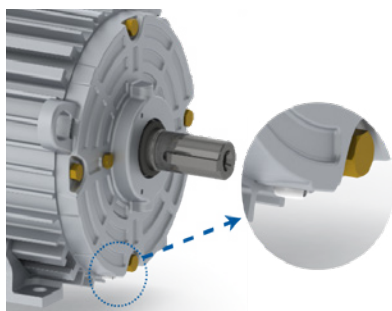
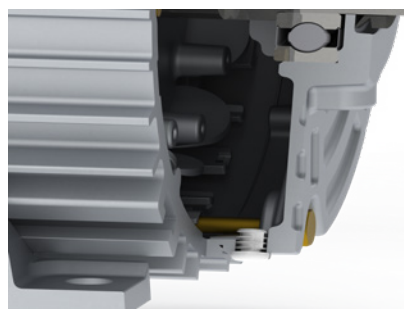

Figure 4 - Drain Position
Figure 5 - Drain sectional view
**Drain hole:** W30 Smart EC product can be supplied with drains. Figure 4 and Figure 5 give details about the mounting configuration.